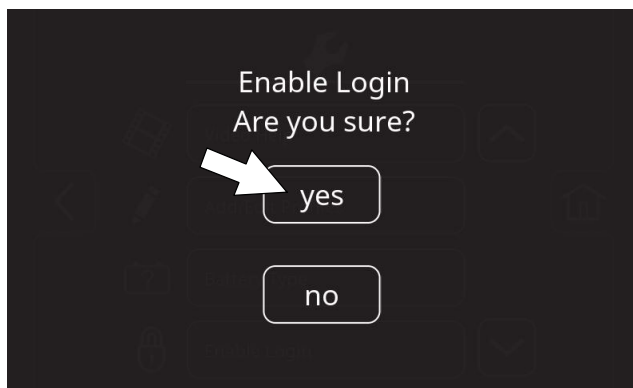

FIG. 188
5. Press the yes button to enable login (Figure 188).